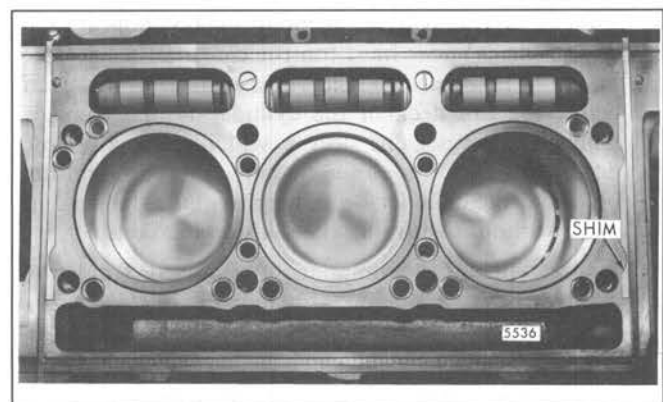

Fig. 11 – Cylinder Head Support Shims in Place
- b. To prevent end cylinder head bolt breakage, support shims are attached at each end of the cylinder block (two per cylinder bank) – (Fig. 11). Remove the adhesive paper and place the support shims, adhesive side down, in position at each end of the cylinder block. The scallop in the shim placed at the rear of the block must be at the oil supply hole (Fig. 11).